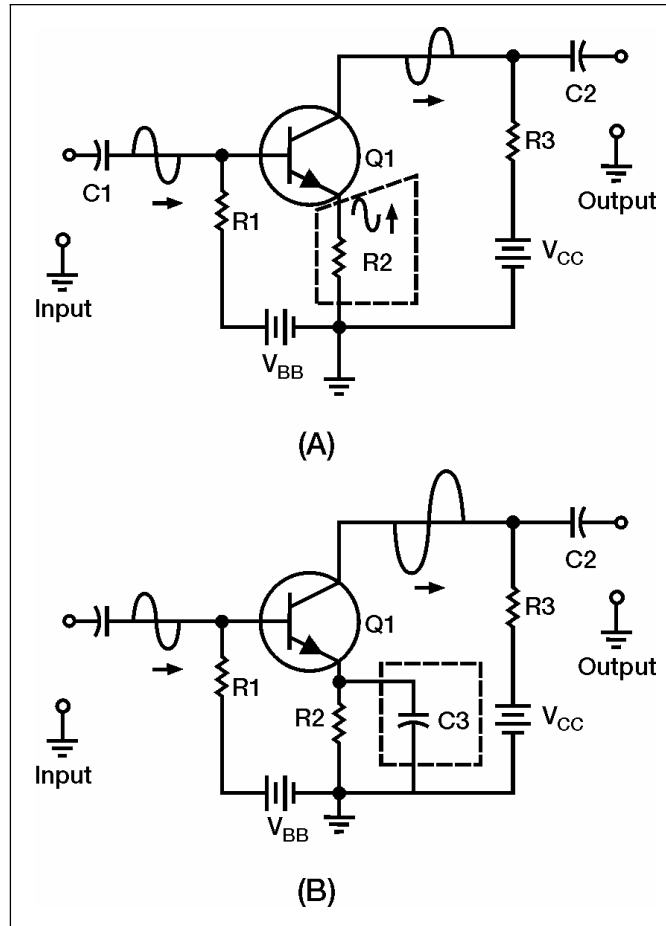

Figure 5-19. Decoupling (Bypass) Capacitor in a Transistor Amplifier
5-72. Sometimes positive feedback is used to eliminate the effects of negative feedback that are caused by circuit components. Figure 5-19 shows one way in which a circuit component can cause negative feedback.
5-73. Figure 5-19, view (A) shows a CE transistor amplifier. An emitter resistor (R_2) has been placed in this circuit to provide proper biasing and temperature stability. An undesired effect of this resistor is the development of a signal at the emitter in phase with a signal at the input on the base. This signal is caused by the changing current through the emitter resistor (R_2) as the current through the transistor changes. You might think that this signal on the emitter is a form of positive feedback since it is in phase with the input signal; however, the emitter signal is really negative feedback. Current through the transistor is controlled by the base-to-emitter bias. If both the base and emitter become more positive by the same amount at the same time, current will not increase. It is the